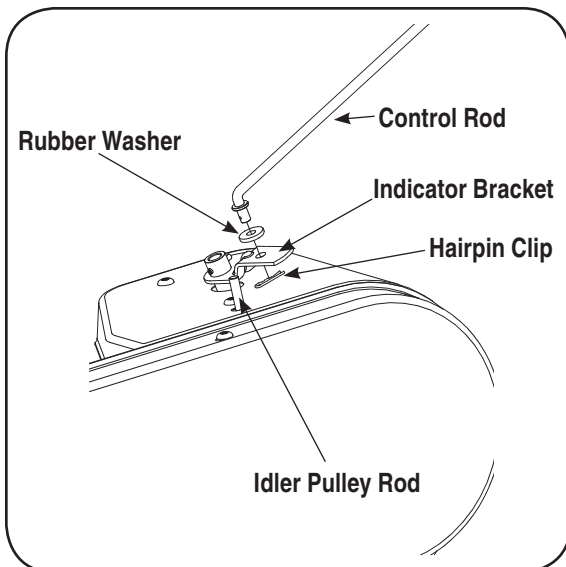

Figure 3-5
- Insert the shorter, (angled), end of the control rod through the indicator bracket on the shift cover and secure with hairpin clip that was previously removed. See Figure 3-5.